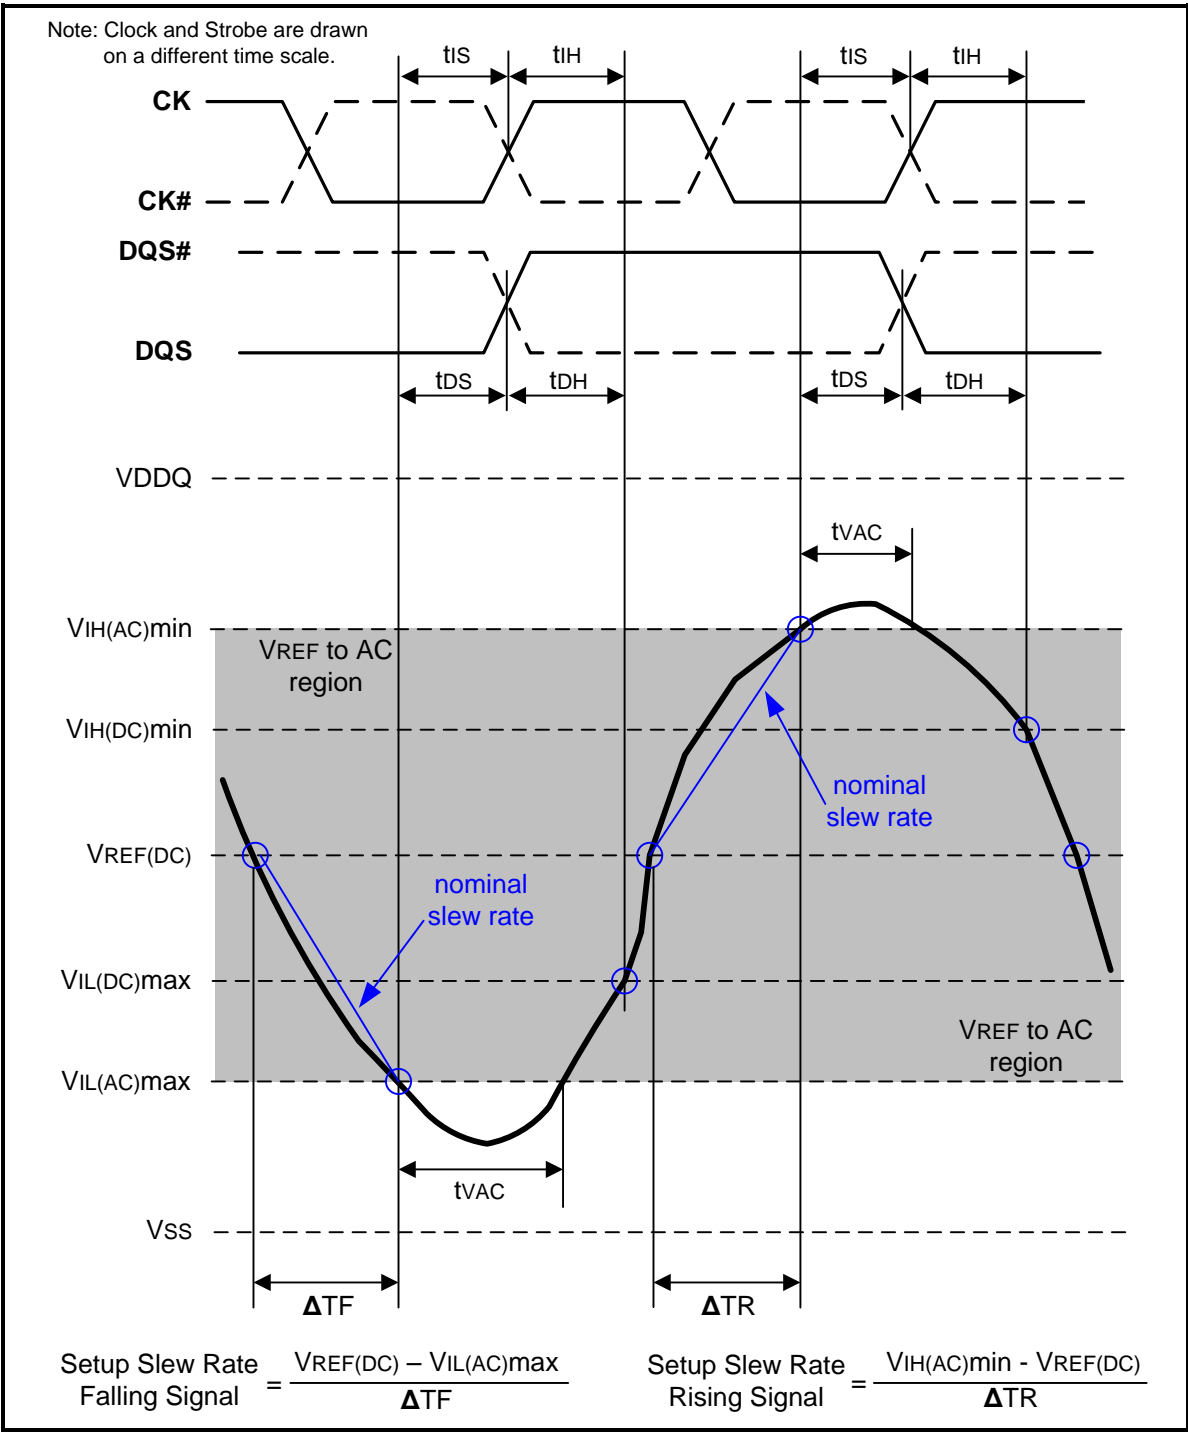
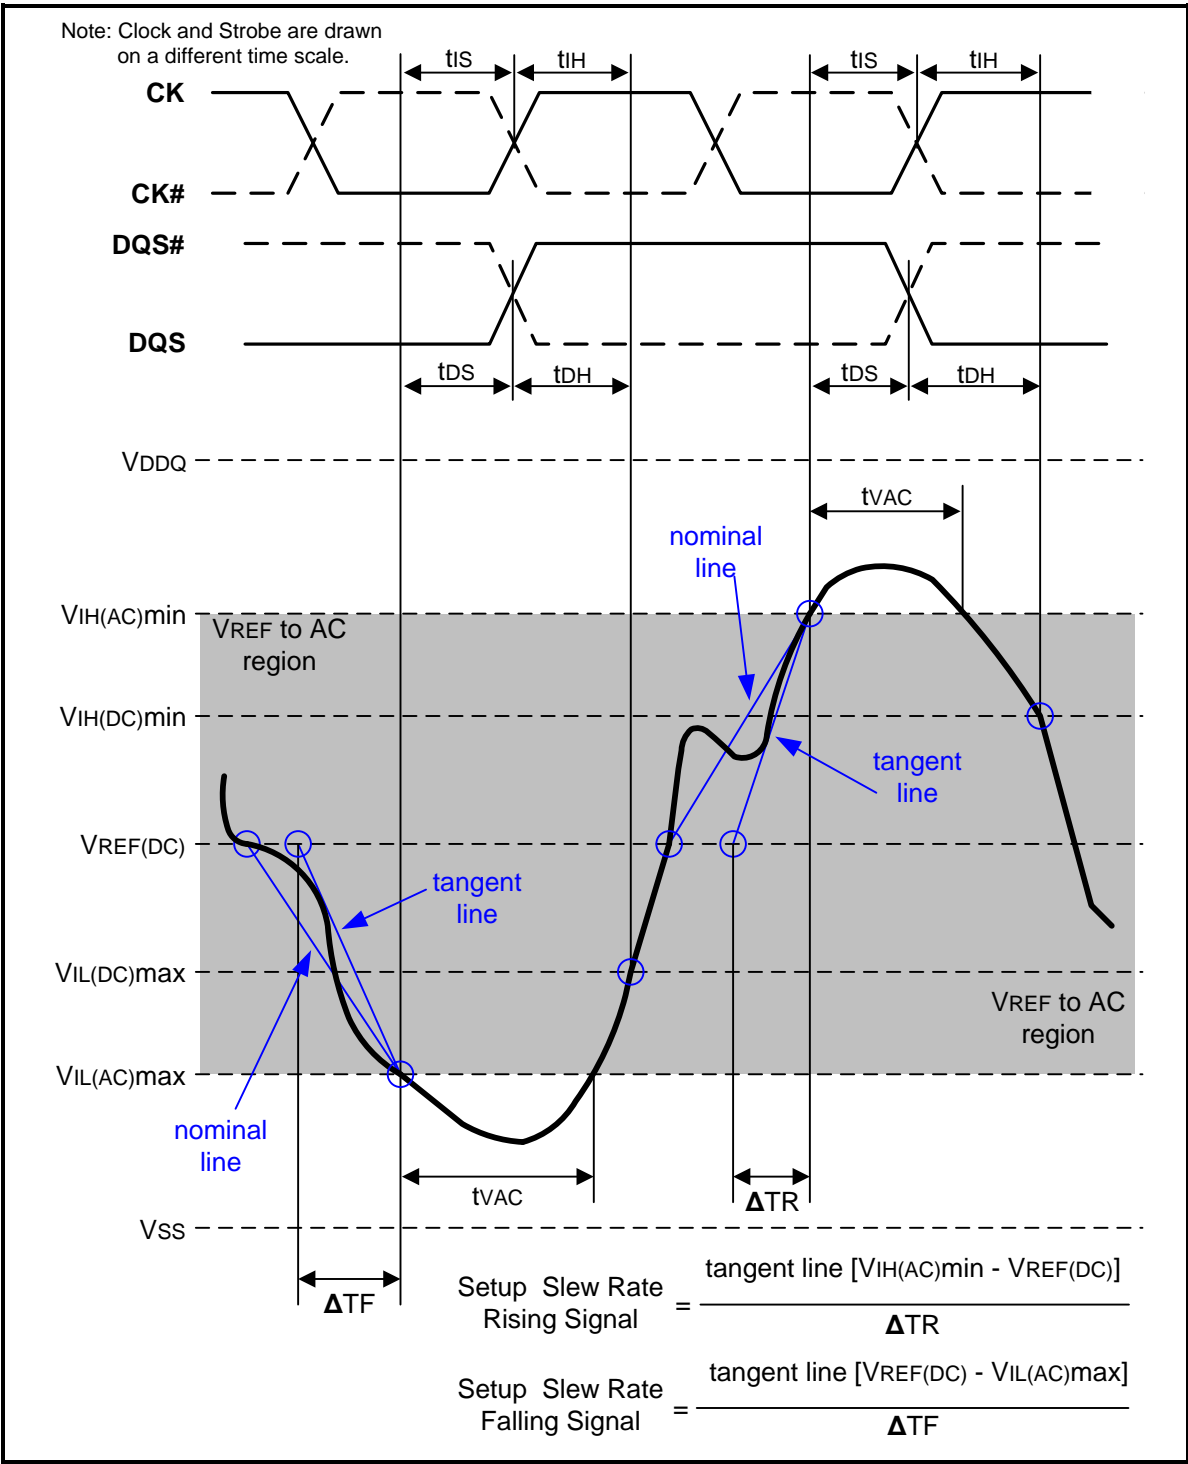

Figure 107 – Illustration of nominal slew rate and tvAC for setup time tDS (for DQ with respect to strobe) and tIS (for ADD/CMD with respect to clock)
Figure 109 – Illustration of tangent line for setup time tds (for DQ with respect to strobe) and tis (for ADD/CMD with respect to clock)
Setup (t_{IS}) nominal slew rate for a rising signal is defined as the slew rate between the last crossing of $V_{REF(DC)}$ and the first crossing of $V_{IH(AC)min}$. Setup (t_{IS}) nominal slew rate for a falling signal is defined as the slew rate between the last crossing of $V_{REF(DC)}$ and the first crossing of $V_{IL(AC)max}$. If the actual signal is always earlier than the nominal slew rate line between shaded 'VREF(DC) to AC region', use nominal slew rate for derating value (see Figure 107). If the actual signal is later than the nominal slew rate line anywhere between shaded 'VREF(DC) to AC region', the slew rate of a tangent line to the actual signal from the AC level to $V_{REF(DC)}$ level is used for derating value (see Figure 109).
Setup (tDS) nominal slew rate for a rising signal is defined as the slew rate between the last crossing of VREF(DC) and the first crossing of VIH(AC)min. Setup (tDS) nominal slew rate for a falling signal is defined as the slew rate between the last crossing of VREF(DC) and the first crossing of VIL(AC)max (see Figure 107). If the actual signal is always earlier than the nominal slew rate line between shaded 'VREF(DC) to AC region', use nominal slew rate for derating value. If the actual signal is later than the nominal slew rate line anywhere between shaded 'VREF(DC) to AC region', the slew rate of a tangent line to the actual signal from the AC level to VREF(DC) level is used for derating value (see Figure 109).